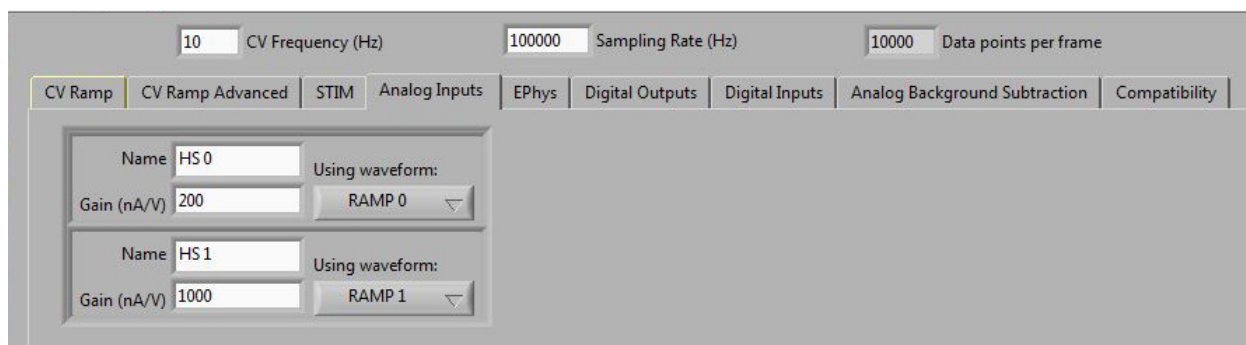

Figure 7-8. Analog Input Tab to Set Headstage Amplification Gain
- Verify the headstage gain for each channel. Select the *Analog Inputs* tab. Now, two entries exist such that the headstage amplification (gain) can be set individually (see: Figure 7-8). Enter the appropriate gain ratio into the *Gain (nA/V)* field, select *Ramp 0* or *Ramp 1* from the *Using waveform* drop down list, and enter a *Name* (optional). To increase clarity on the Scope tab, when viewing all input and output signals, Pine Research recommends naming the Analog Inputs as *HS 0* (for the headstage connected to *HEADSTAGE 0*) and *HS 1* (for the headstage connected to *HEADSTAGE 1*). The WaveNeuro with DCA under HDCV control allows the use of different gains as desired. The standard headstage gain from Pine Research is 200 nA/V ($5 \text{ M}\Omega$). Alternate headstage gains may be available, contact Pine Research for more information. For more detailed information on headstage gain, review earlier sections of this guide (see: Figure 5-5).